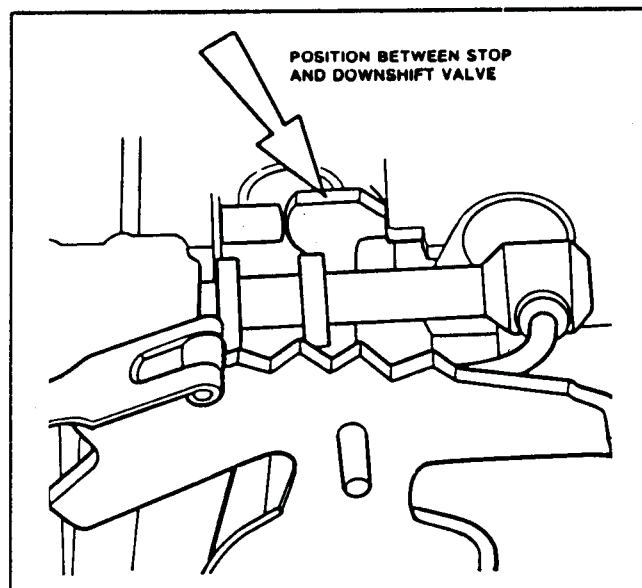

**FIG. 52 Extension Housing Installation**
20. Using a new gasket, install the extension housing. Be sure to correctly seat the operating parking rod in the extension guide cup. Tighten the bolts to 37-52 N·m (27-39 lb-ft), (Fig. 52).